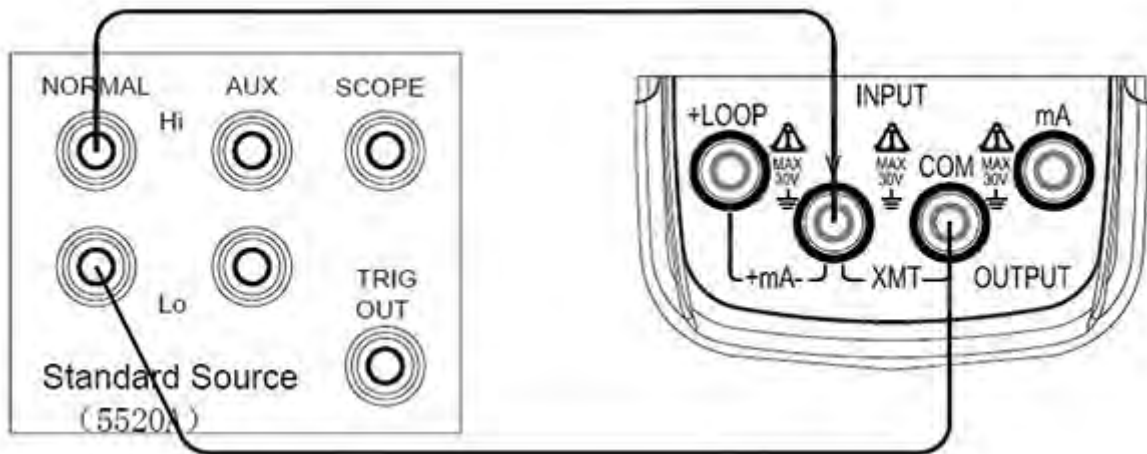

Figure 7-4
- ↪ 2. Connect the EC mAV 2 to the equipment as shown in Figure 7-4.